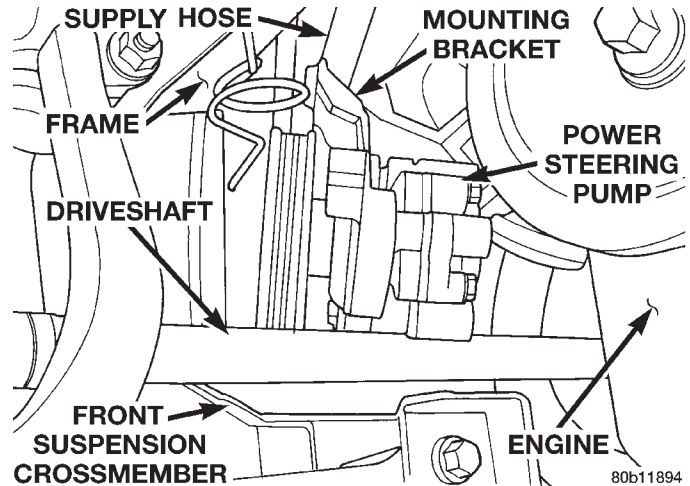

Fig. 22 Power Steering Pump Removal/Installation
(17) Remove the 4 bolts mounting the power steering pump mounting bracket to the engine.
(18) Remove the power steering pump mounting bracket from the engine. Position the power steering pump mounting bracket where it will not be in the way when removing power steering pump from the vehicle.
(19) Remove power steering pump, fluid supply hose and front mounting bracket as an assembly from the engine and vehicle. Pump, fluid supply hose and mounting bracket is removable by bringing it out through area between rear of engine, frame drive-shaft and front suspension crossmember (Fig. 22).